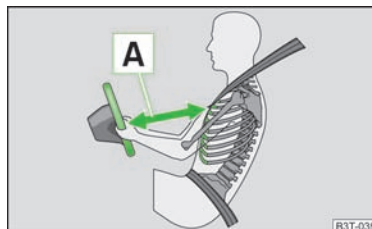

Fig. 116
- For the driver and front passenger it is important to maintain a distance of at least 25 cm to the steering wheel or dash panel » Fig. 116 **A**. Not maintaining this minimum distance will mean that the airbag system will not be able to properly protect you - hazard! The front seats and the head restraints must always also be correctly adjusted to match the body size of the occupant.